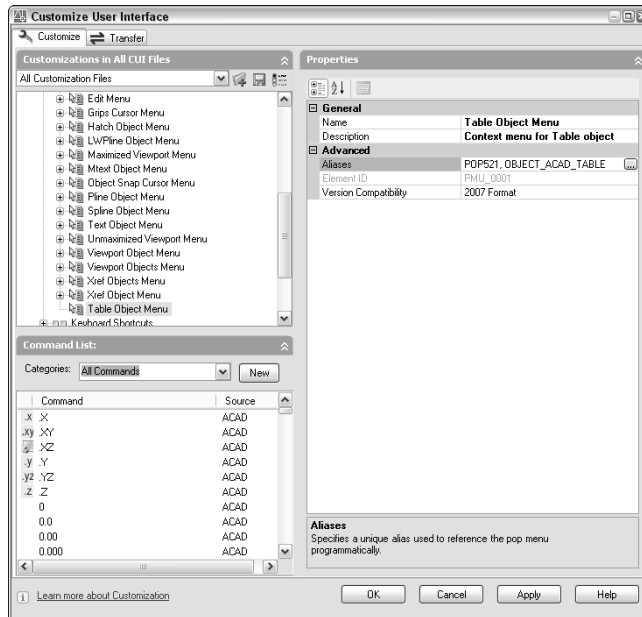

**Figure 33-15:** The Table Object Menu, a shortcut menu, has two aliases and one command.
6. Click the Aliases text box and then click the Ellipsis button on the right. In the Aliases dialog box, click at the end of the current alias, and press Enter to start a new line. Type **OBJECT\_ACAD\_TABLE**. Click OK. Your Customize User Interface dialog box should look like Figure 33-15.